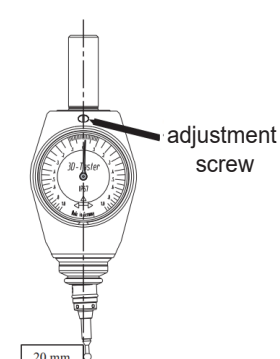

Figure 8
- Adjust by "half the difference" using the adjustment screw and complete calibration (Figure 8)